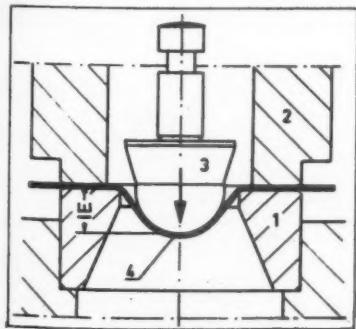

Fig. 1
**The Cupping Test**, an invention of Mr. A. M. Erichsen who died in 1951, is today after some 30 years of use, accepted as a standard method in Germany and in France (Fig. 1). The method involves applying the tested coating according to instructions on a cupping tinplate which is then deformed by pushing the ball stamper (3) of the testing apparatus against the cupping matrix (1). The coating is thus subjected to increasing tension and bending, to a point when the